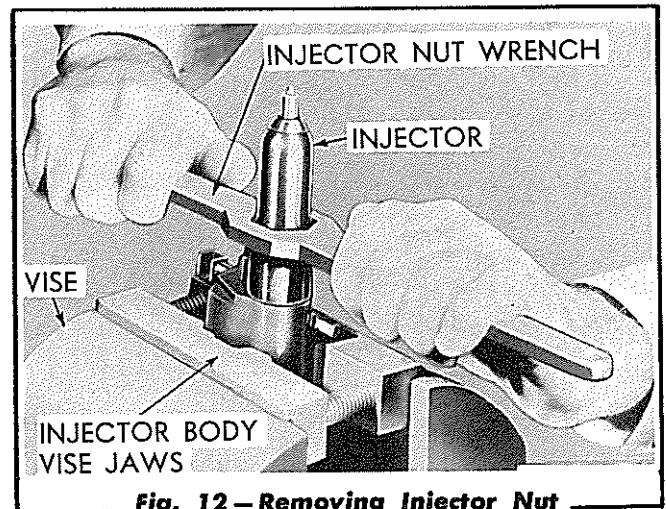

Fig. 12 — Removing Injector Nut
4. Clamp the injector in the holding fixture with the spray tip of the injector up, as shown in Fig. 12 and loosen the injector nut, using